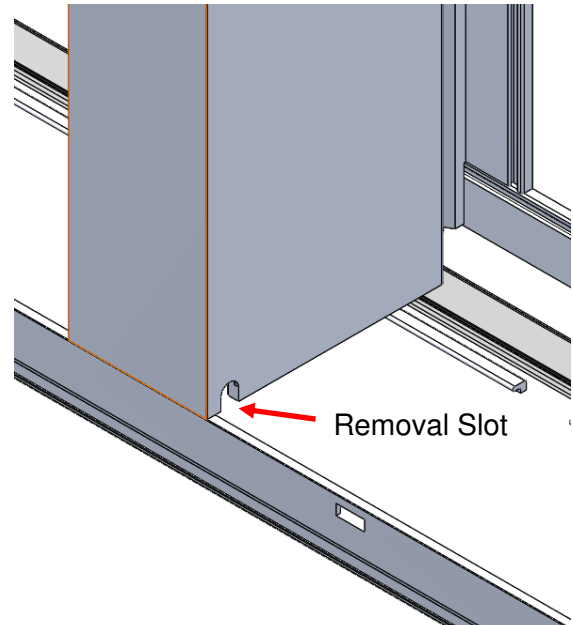

Figure C1:
2. Locate the removal slots at the ends of the Glazing Anchor Cover (Figure C1).